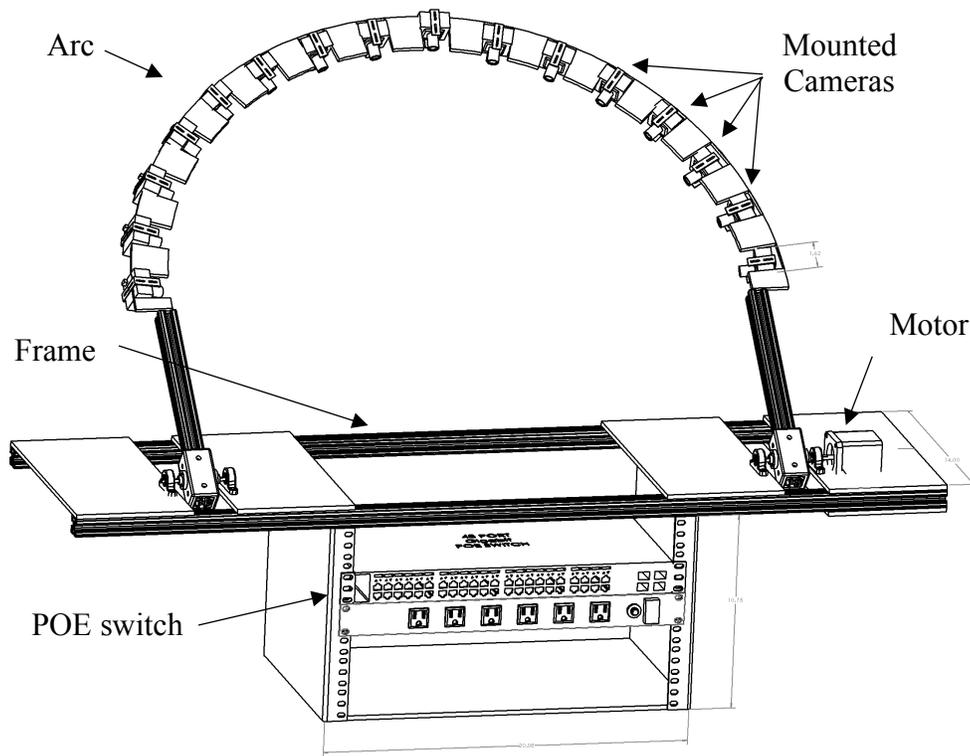

Figure 1: Mechanical design of the 3D scanner with mounted camera array and supporting server rack.
Our primary motivation is to develop an economical and robust 3D scanner for producing 3D models of sub-meter scale objects with centimeter resolution [Fig.1,2]. Current 3D scanning technologies use high-cost depth cameras, and we aim to provide both the hardware and software techniques for achieving a similar depth resolution with lower-cost resources [1,2]. If successful, the final 3D scan could be converted to the required file format for existing 3D printing technologies, demonstrating a use in rapid prototyping.
- 3) Scanning Stage [Fig. 1,2]